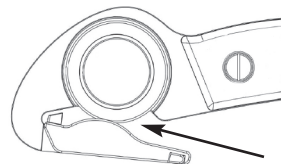

Fig. 2
4. In order to initiate a cut at a heavy seam, use the area of the blade shown in fig 2.